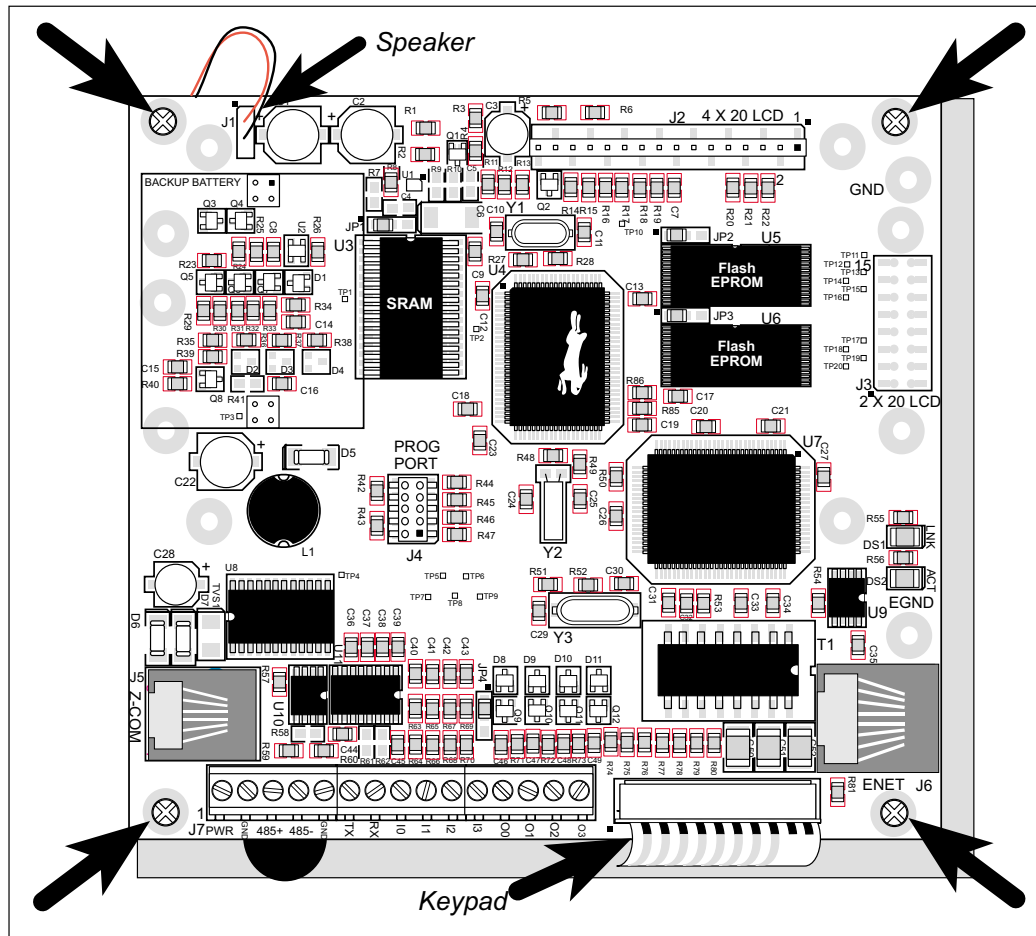
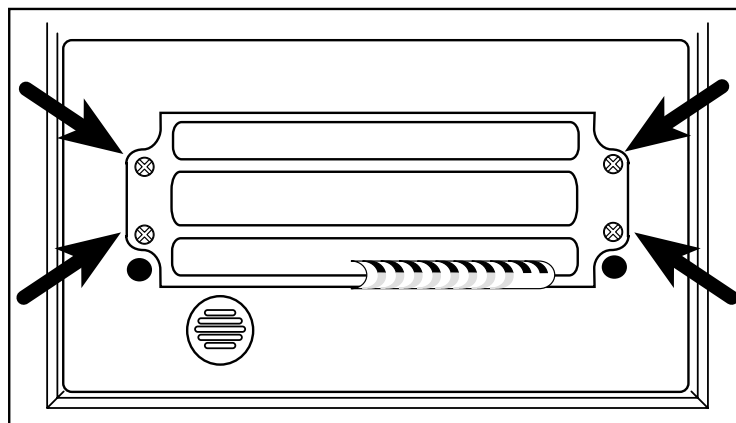

Figure B-2. Removing Intellicom Board from Front Panel
Figure B-3. Removing Keypad from Front Panel
2. Unplug the speaker and the keypad as shown in Figure B-2.
3. Remove the four screws shown in Figure B-2 that hold the Intellicom board to the front panel.
5. Remove the four screws shown in Figure B-3 that hold the keypad to the front panel.
7. Line up the keypad over the front panel and replace the four 2-56 screws as shown in Figure B-3. Line up the Intellicom board/LCD and replace the four screws as shown in Figure B-2. Reconnect the keypad and the speaker to the Intellicom board.